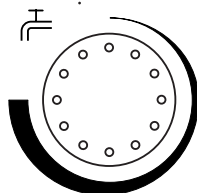

Fig. 5 Domestic Hot Water Temperature Control
3. **Domestic Hot Water:** The temperature of the domestic hot water can be adjusted by turning the control knob clockwise to increase up to a maximum of 65° C (Fig. 5).